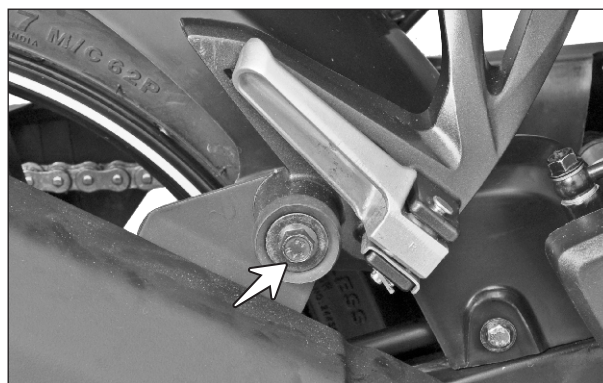

Fig. 3.33
- Remove the hexagonal bolt (M8x60 - 1 no.) from the muffler assembly rear mounting along with punched washer and 'U' nut. (Fig. 3.33)